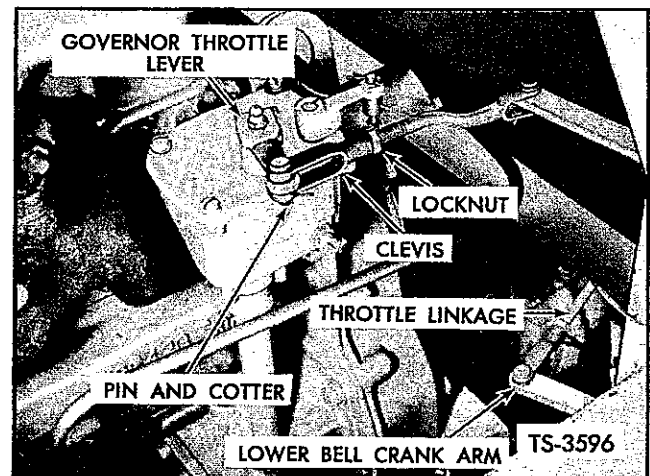

Fig. 13. Adjust Throttle Linkage — G.M. Diesel
3. Rotate governor throttle lever to extreme forward (full throttle) position and adjust clevis to obtain a slip fit in governor throttle lever just before accelerator bottoms. If a slip fit cannot be obtained adjust clevis at lower bell crank arm and reconnect accelerator spring. See Figure 13.
Pressure required to depress accelerator is controlled by a spring on the accelerator linkage as shown in Figure 13. This spring also insures